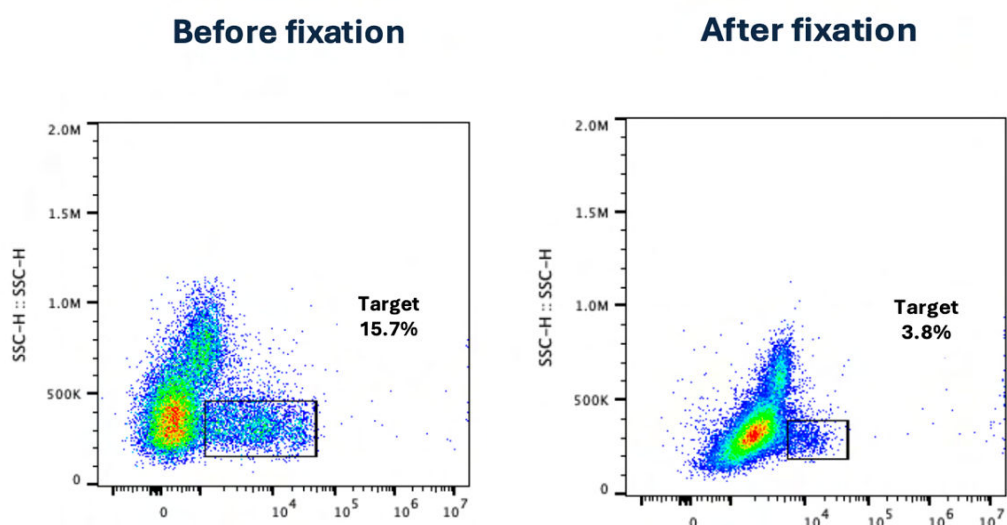

Figure 3. Representative example of a target exhibiting partial loss in signal following fixation
- 3) The antibody retains binding after fixation; however, some antibodies may lose part or all of their signal after fixation, as shown in Figure 3 and 4 below.